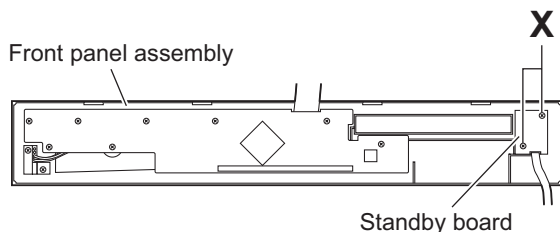

Fig.4
2.2.3 Removing the standby board (See Fig.4.)
2.3.4 Removing the clamber base (See Fig.4.)